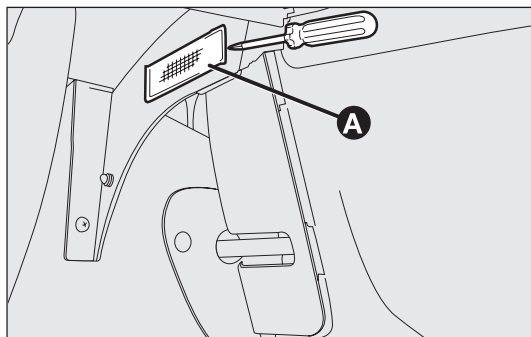

fig. I63
- ☐ using the screwdriver provided, extract the ceiling light A-fig. I63 working in the point shown;